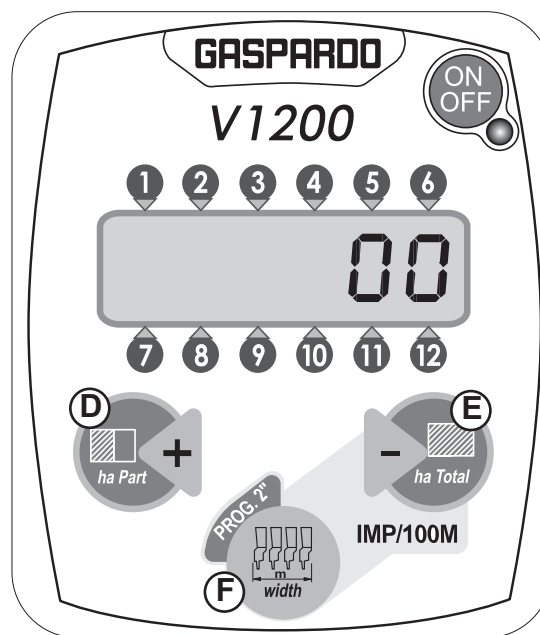

fig. 12
When the monitor is switched on, it runs a test lasting approx. 2 seconds, during which all the segments of the display light up and the acoustic signal (buzzer) sounds. At the end of the test, the hours of operation are displayed for approx. 3 seconds and during this period the hours can be zero-set by pressing any of the following keys: (D) (E) (F) (Fig. 12).